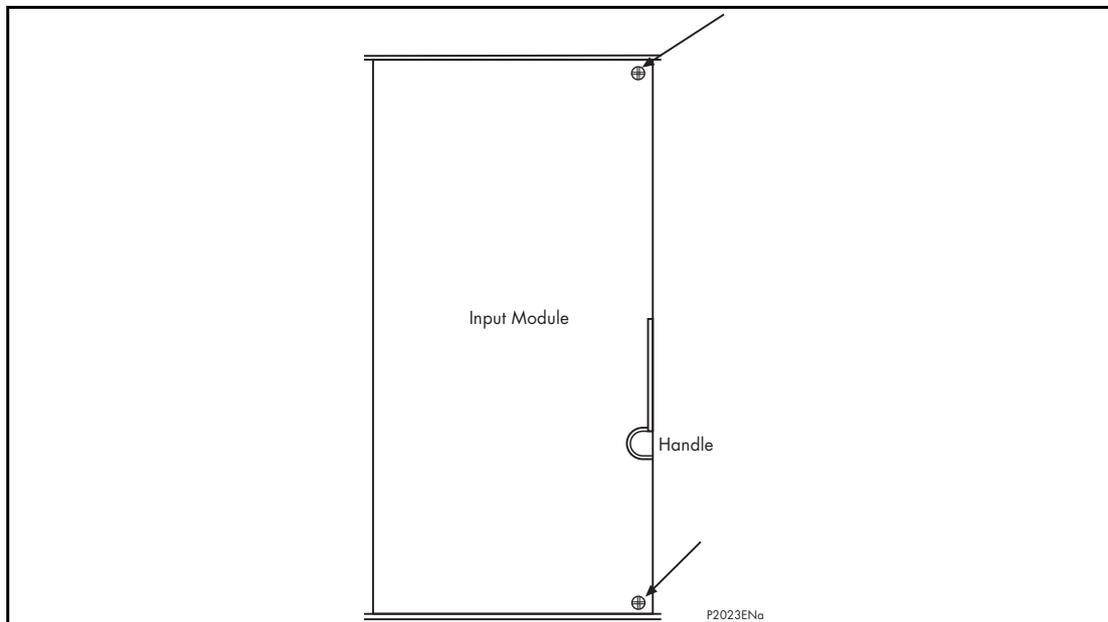

Figure 6: Location of securing screws for input module
1. The module is secured in the case by two screws on its right-hand side, accessible from the front of the relay, as shown in Figure 6. Remove these screws carefully as they are not captive in the front plate of the module.